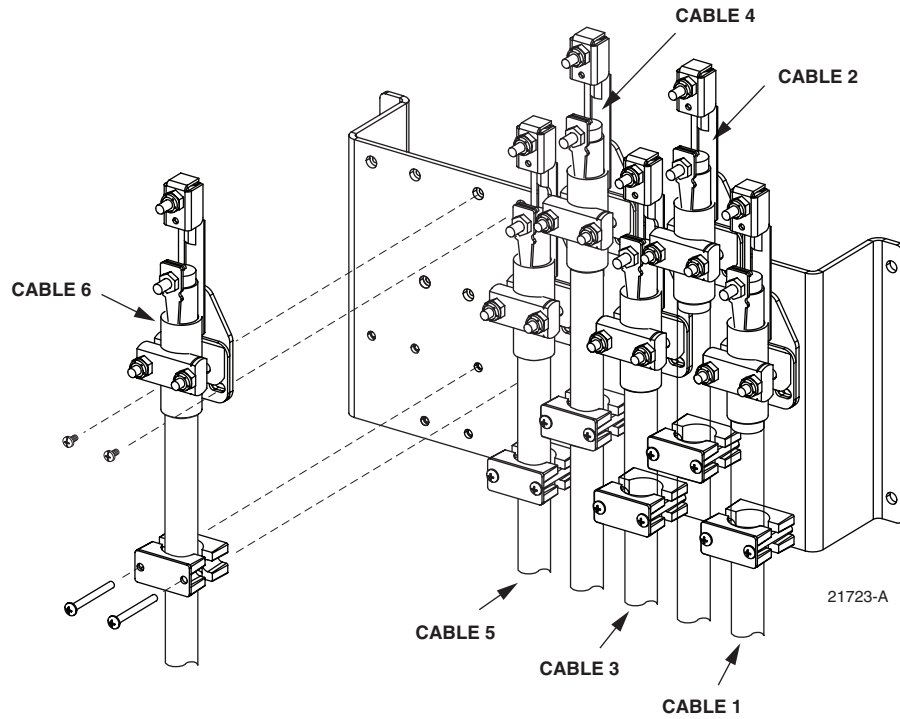

Figure 17. Secure Cable to Cable Bracket
3. Locate the cable clamping position specified for the next cable as shown in Figure 17.